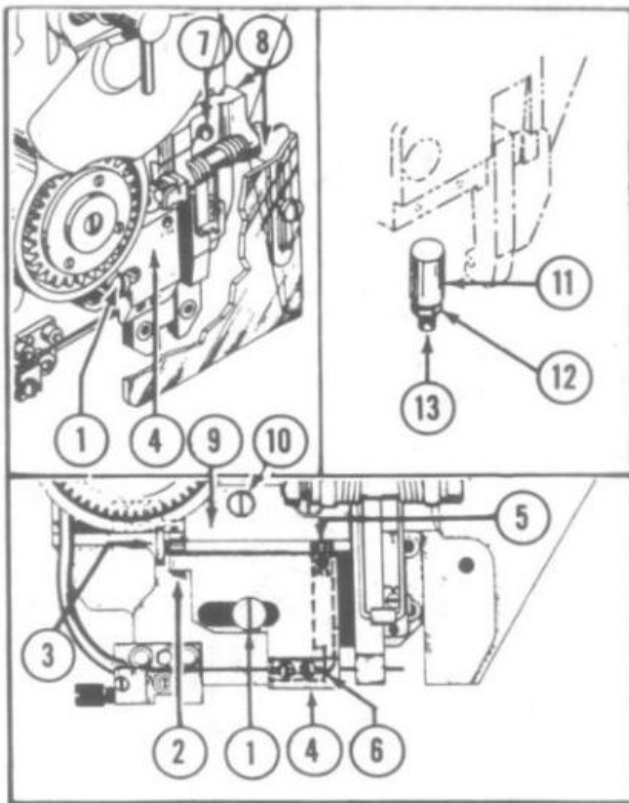

Figure 12—Staple Left Leg and Movable Cutter Adjustments
4. HOW TO ADJUST LENGTH OF STAPLE LEFT LEG (See Fig. 12)
5. HOW TO SET MOVABLE CUTTER (See Fig. 12)
(See Fig. 12)